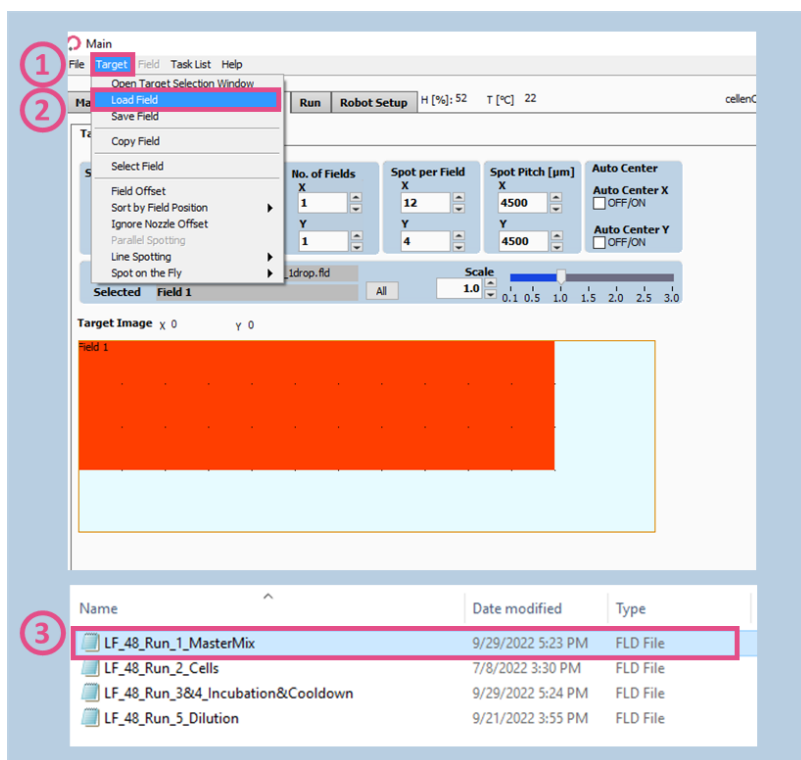
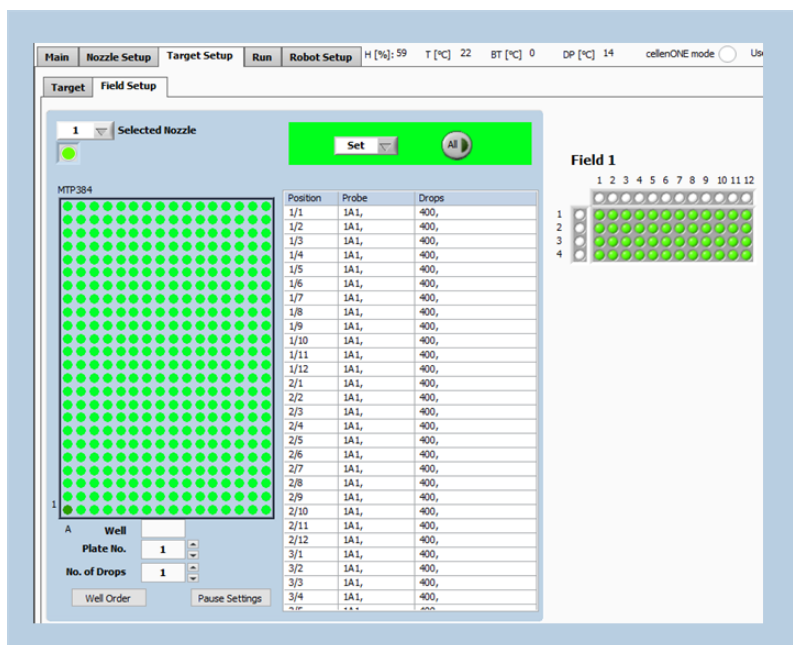

Figure 10. Field Selection for Run 1 – Master Mix dispensing.
Figure 11. Field Setup for Run 1 – Master Mix dispensing.
**Target Setup** >> **Target** >> **Load Field** >> Select the field corresponding to the run (Figure 10) and you will have the field corresponding to Figure 11.